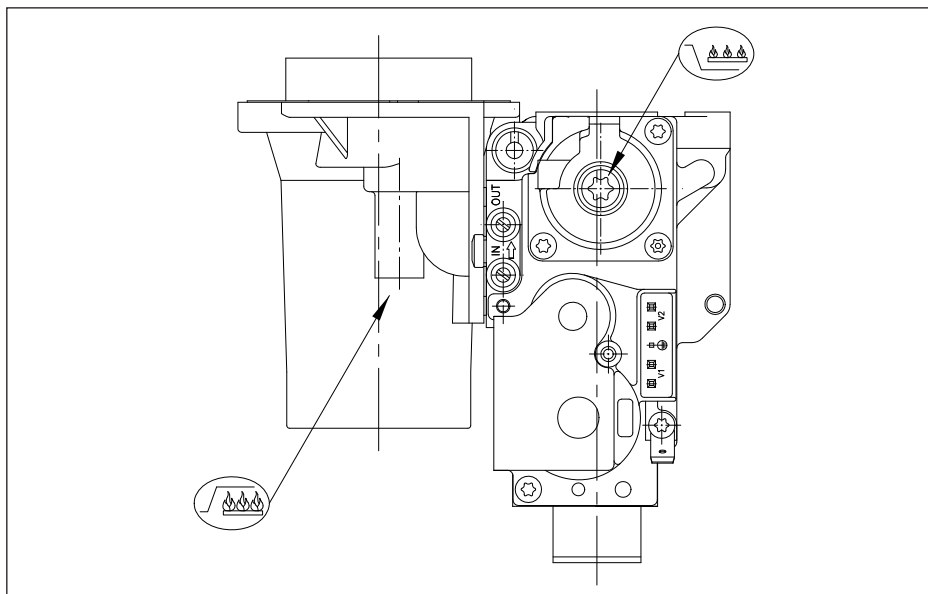

Fig. 21 Setting screws
- 17.3. When full-load speed is reached, check values against the table and adjust if necessary using the  $\beta$  screw on the venturi (see fig. 21).
- 17.6. When part-load speed is reached, check values against the table and adjust if necessary using the  screw on the combi valve (see fig. 21).